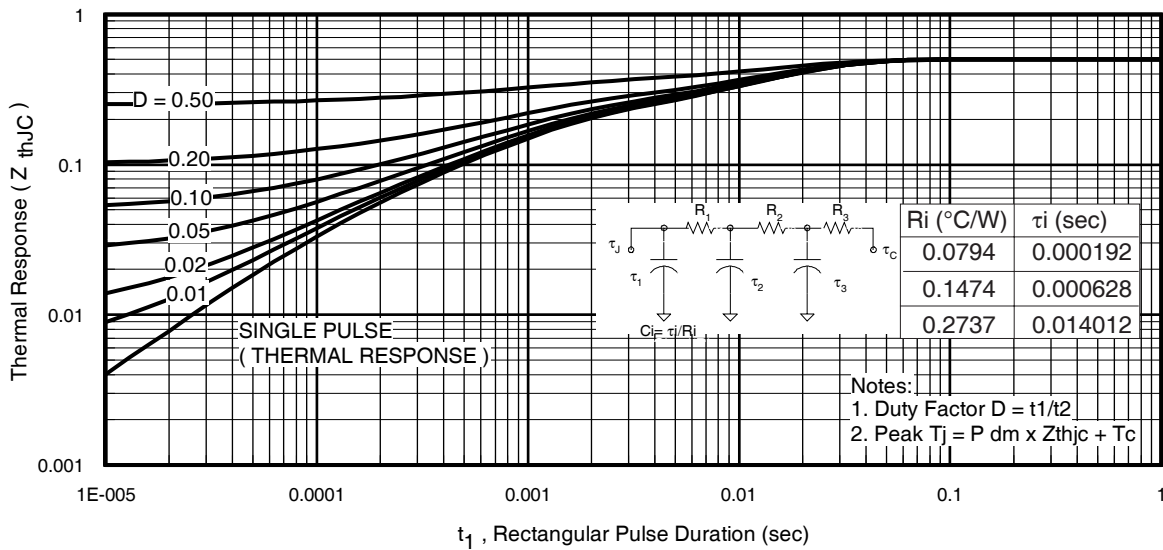

Fig 11. Maximum Effective Transient Thermal Impedance, Junction-to-Case
- ① Repetitive rating; pulse width limited by max. junction temperature. (See fig. 11).
- ② Limited by T_{Jmax} , starting $T_J = 25^\circ\text{C}$, $L = 0.043\text{mH}, R_G = 25\Omega, I_{AS} = 140A, V_{GS} = 10V$. Part not recommended for use above this value.
- ③ Pulse width $\leq 1.0\text{ms}$; duty cycle $\leq 2\%$.
- ④ $C_{oss\text{ eff.}}$ is a fixed capacitance that gives the same charging time as C_{oss} while V_{DS} is rising from 0 to 80% V_{DSS} .
$Z_{thJC}(D, t_{av})$ = Transient thermal resistance, see figure 11)